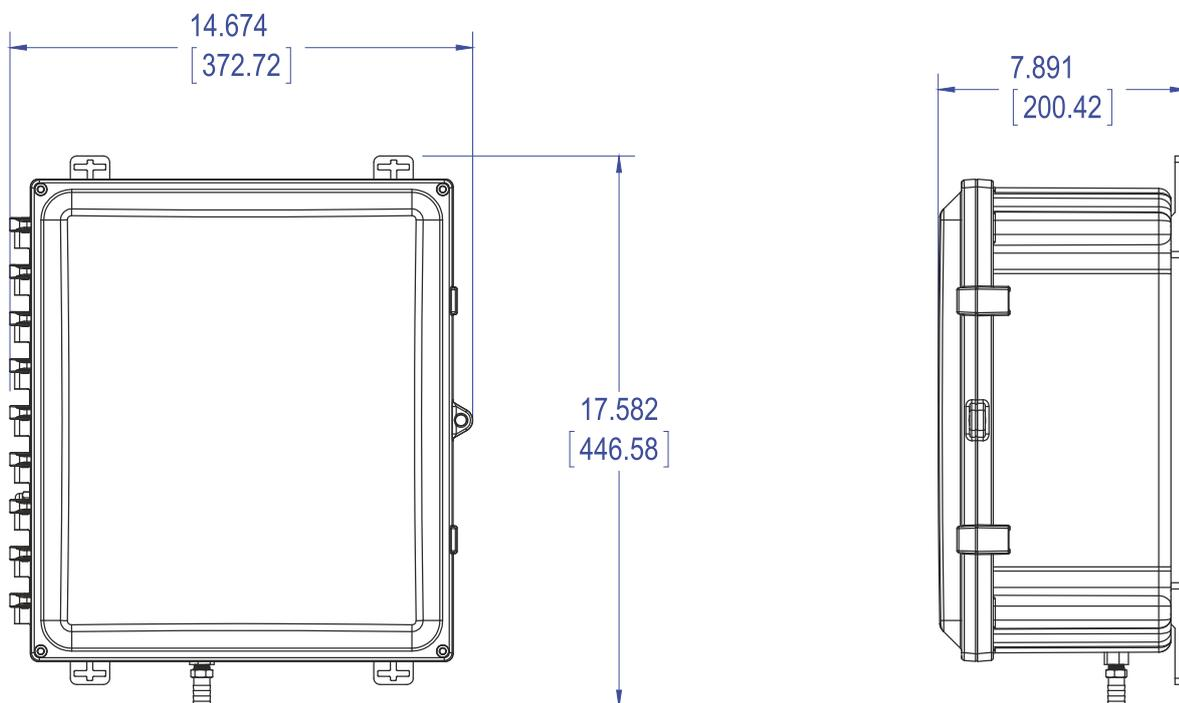
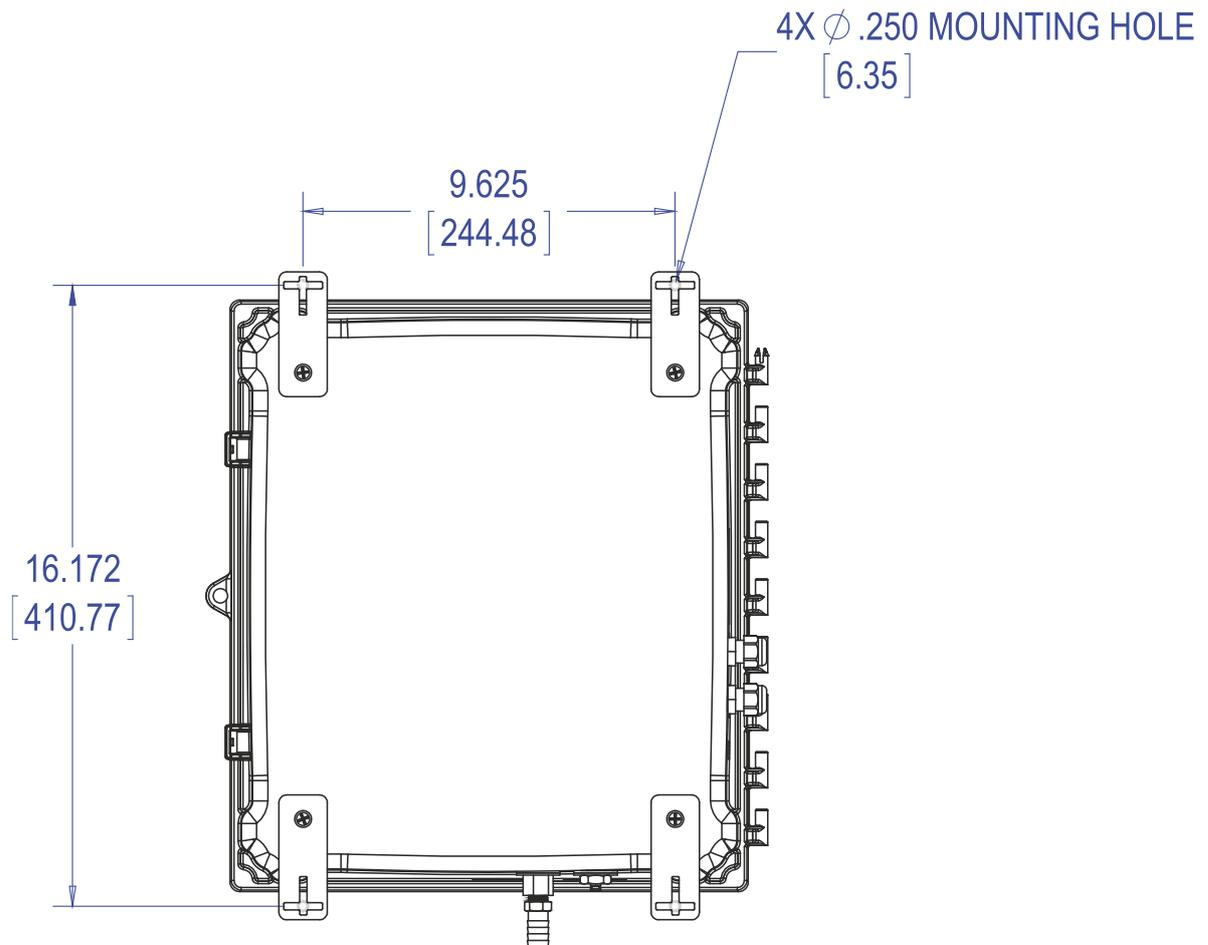
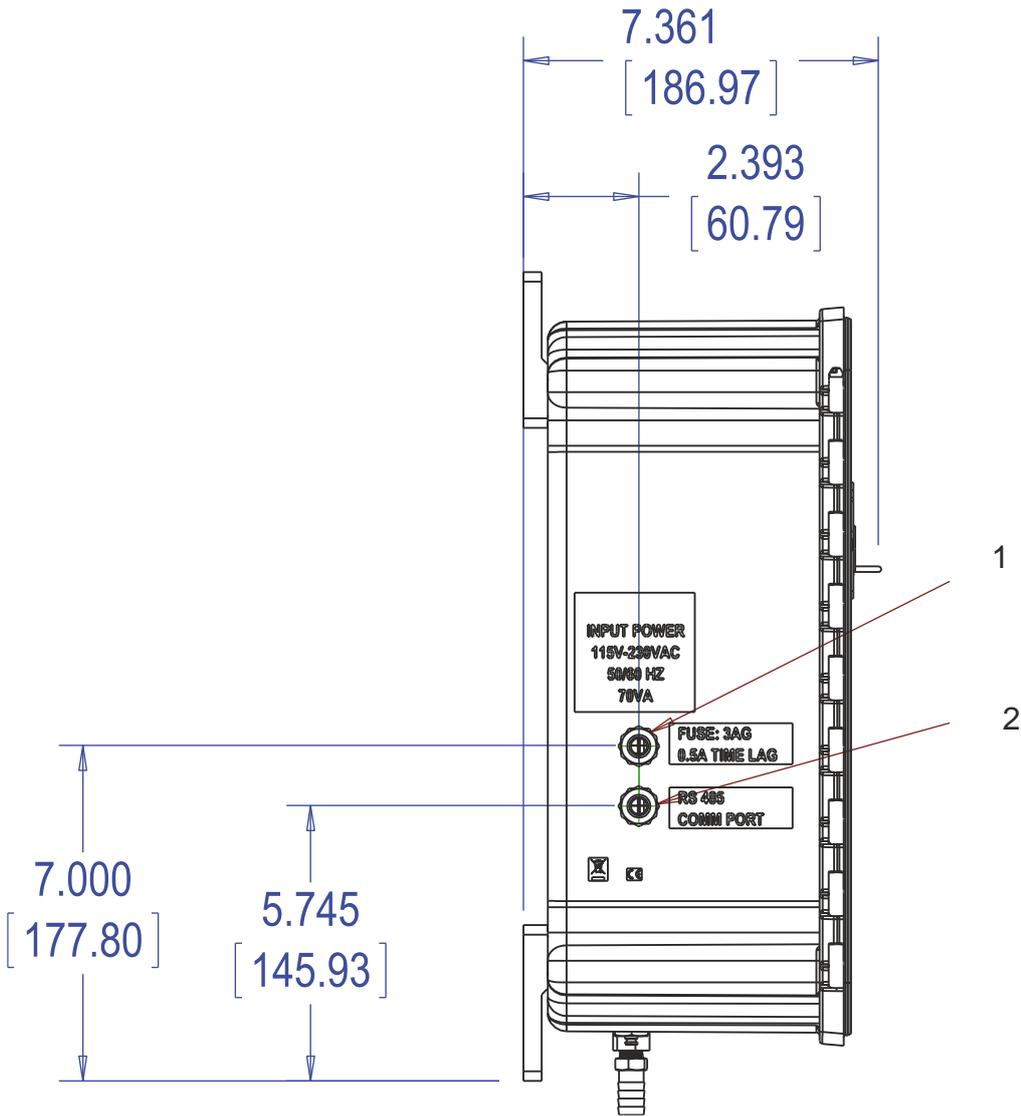
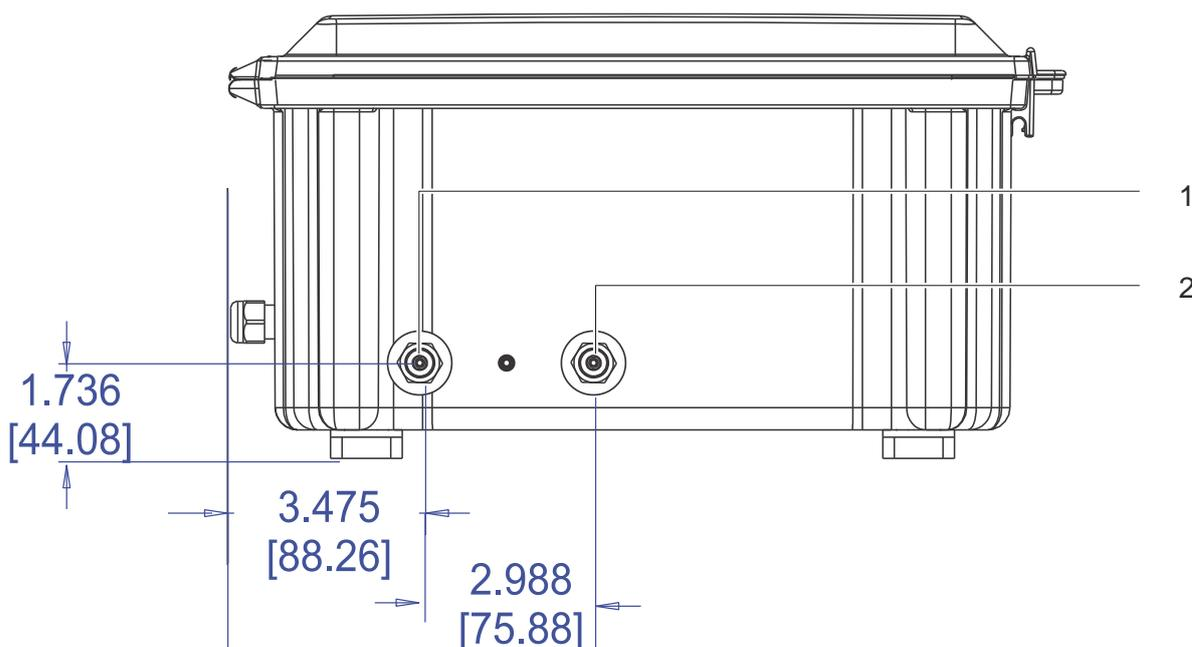

Figure 4.2 Model 3017M Overall Dimensions shown in inches (top number) and millimeters
Figure 4.3 Model 3017M Mounting Dimensions showing the mounting tabs connected to the enclosure. Dimensions are shown in inches (top number) and millimeters.
Figure 4.4 Model 3017M Electrical Connections. Dimensions are shown in inches (top number) and millimeters
Figure 4.5 Model 3017M Plumbing Connections
The enclosure is designed for wall mounting. Refer to Figure 4.2, Figure 4.3, Figure 4.4 and Figure 4.5 for critical dimensions and other installation information.
The 3017M has four mounting tabs that must be installed on the enclosure refer to Figure 4.3. These mounting tabs can be found in a package of mounting hardware that is included with the enclosure. Connect the mounting tabs to the enclosure using the four (4) #10-32 x 3/8-inch Phillips Drive flat head machine screws found in the mounting hardware kit.
Sample inlet and waste connections are made on the bottom of the analyzer. The sample inlet is a quick connect fitting for a 3.175-mm (1/8-inch) OD tubing. The waste line is a barb fitting for 12.7-mm (1/2-inch) ID flexible tubing. See Figure 4.5. Connect the 3.175 mm (1/8-inch) OD Teflon® by pushing it into the fitting. A stop will be felt when the tubing is properly seated in the fitting. Connect the waste line by pushing, and gently twisting, the tubing over the barb on the fitting. Insure that the tubing completely covers the barb.
of 14-28 AWG. All wires should be stripped to a length of 6.35 mm (1/4- inch). Wire ferrules have been found to be particularly useful with the terminal block in the analyzer. The power and RS 485/4-20 mA connections are made through the cable glands that are supplied with the analyzer. The power and RS 48/4-20 mA cable glands can be found on the left-hand-side of the analyzer. See Figure 4.4.
Power, signal, relay and alarm connections are made at the terminal block inside the enclosure on the left-hand-side of the analyzer. For industrial applications, the national electrical codes of most countries may require that AC service be hard-wired and contained in rigid conduit systems. The Model 3017M has been designed to conform to that requirement. Refer to Figure 4.4.